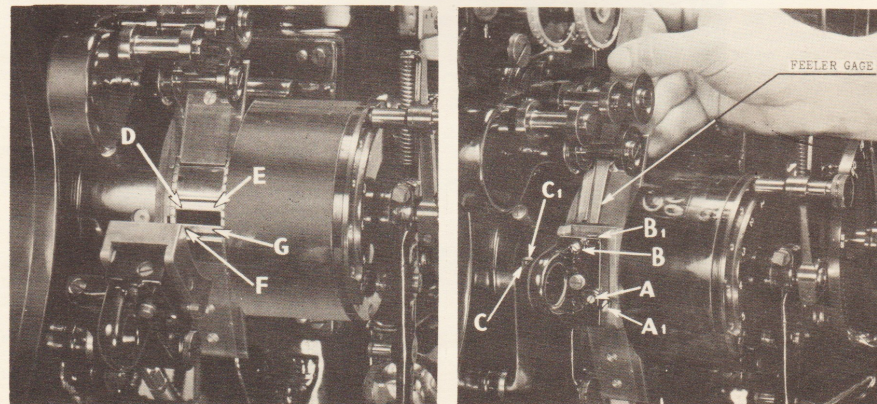

FIGURE 10 - ADJUSTMENT OF GATE SHOE
A. APERTURE GATE (see figure 10.)